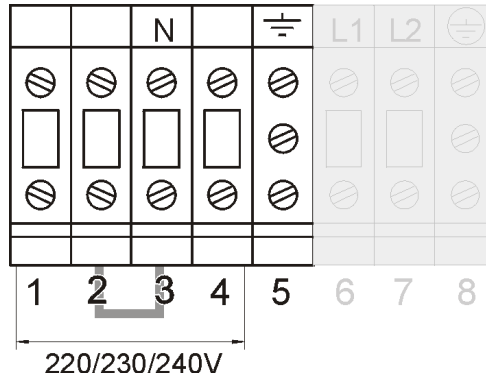

Figure 14. LP11 924 6&10 kVA: 220/230/240 Vac output connection
2. Connect the load wires between the terminals 1 (L1) and 4 (N). Connect the ground wire to terminal 5. Ground connection is essential! Do not remove the insertion bridge between terminals 2 and 3. See figure 14.